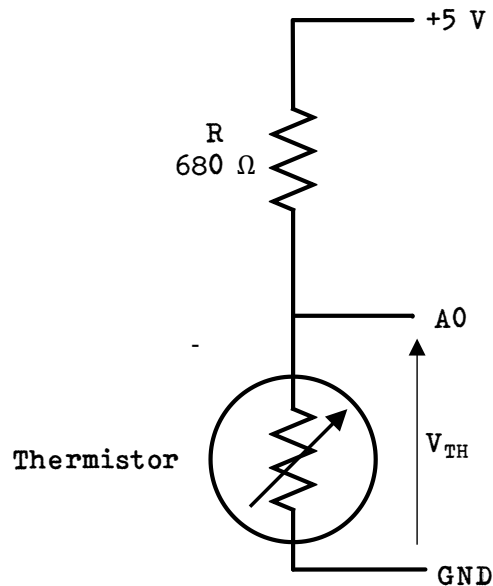

Figure 1. Circuit diagram.
1. Build up the diagram shown in **Figure 1** using your lab kit components.